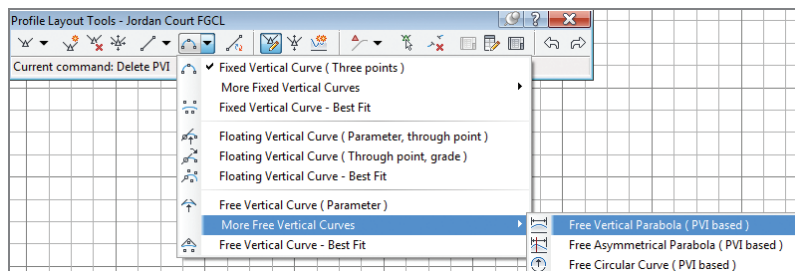

FIGURE 7.9 Clicking the Free Vertical Parabola (PVI Based) command
9. On the Profile Layout Tools toolbar, click the black triangle to the right of the curves button to view the curves menu. Select More Free Vertical Curves > Free Vertical Parabola (PVI Based), as shown in Figure 7.9.